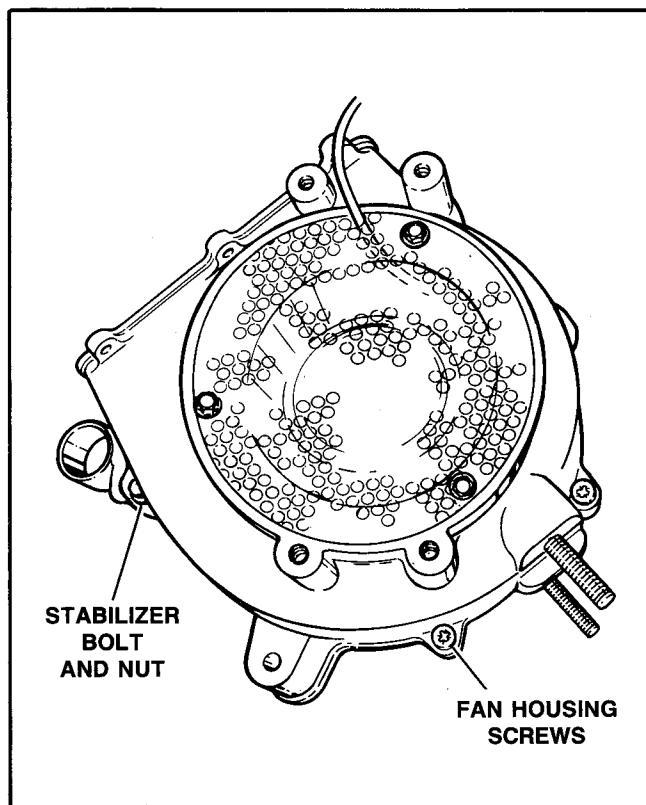

Figure 56 - Fan Housing Removal
- e. See Figure 56. Remove the stabilizer bolt and nut, screws and pull fan housing free.
- f. See Figure 56. Install fan housing (3), stabilizer bolt and nut (1) and fan housing screws (2).